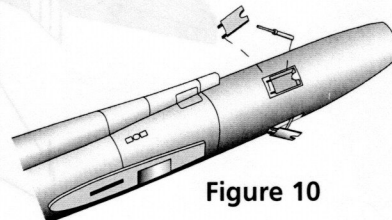

Figure 10
- Glue the fat end of an actuating arm under the "U" fixture on the well. Glue the speed brake in place per Figure 10.
- Carefully cut away the inboard wing flaps and associated structure per Figure 10. Glue the top and bottom inboard wing halves together, then glue the insert in place per Figure 11.